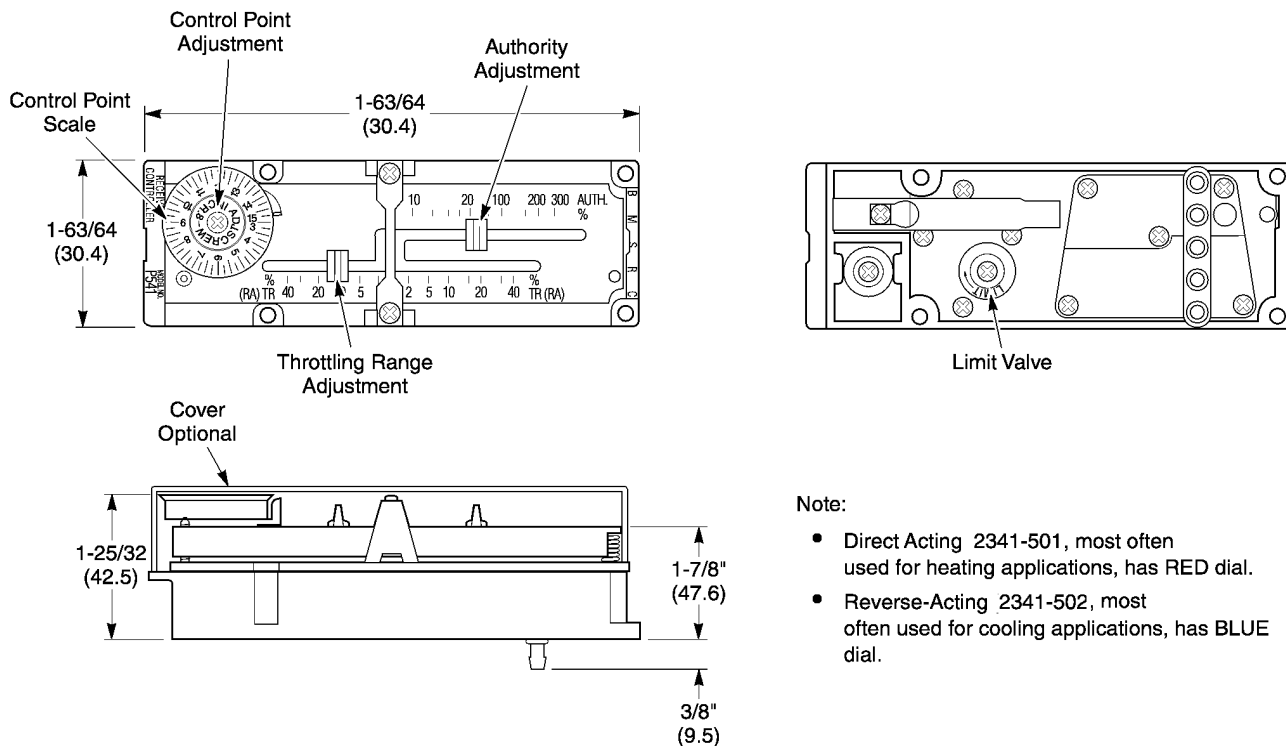

Figure-4 Details of Receiver-Controllers.
1. Set Throttling Range at the (15%) setting that produces an actual TR of 30°F. Since the span of the primary transmitter is 200°F, the correct throttling range setting is 30°F/200°F or 0.15 (15%). Then set Authority at the calculated 165%. Refer to Figure-4.